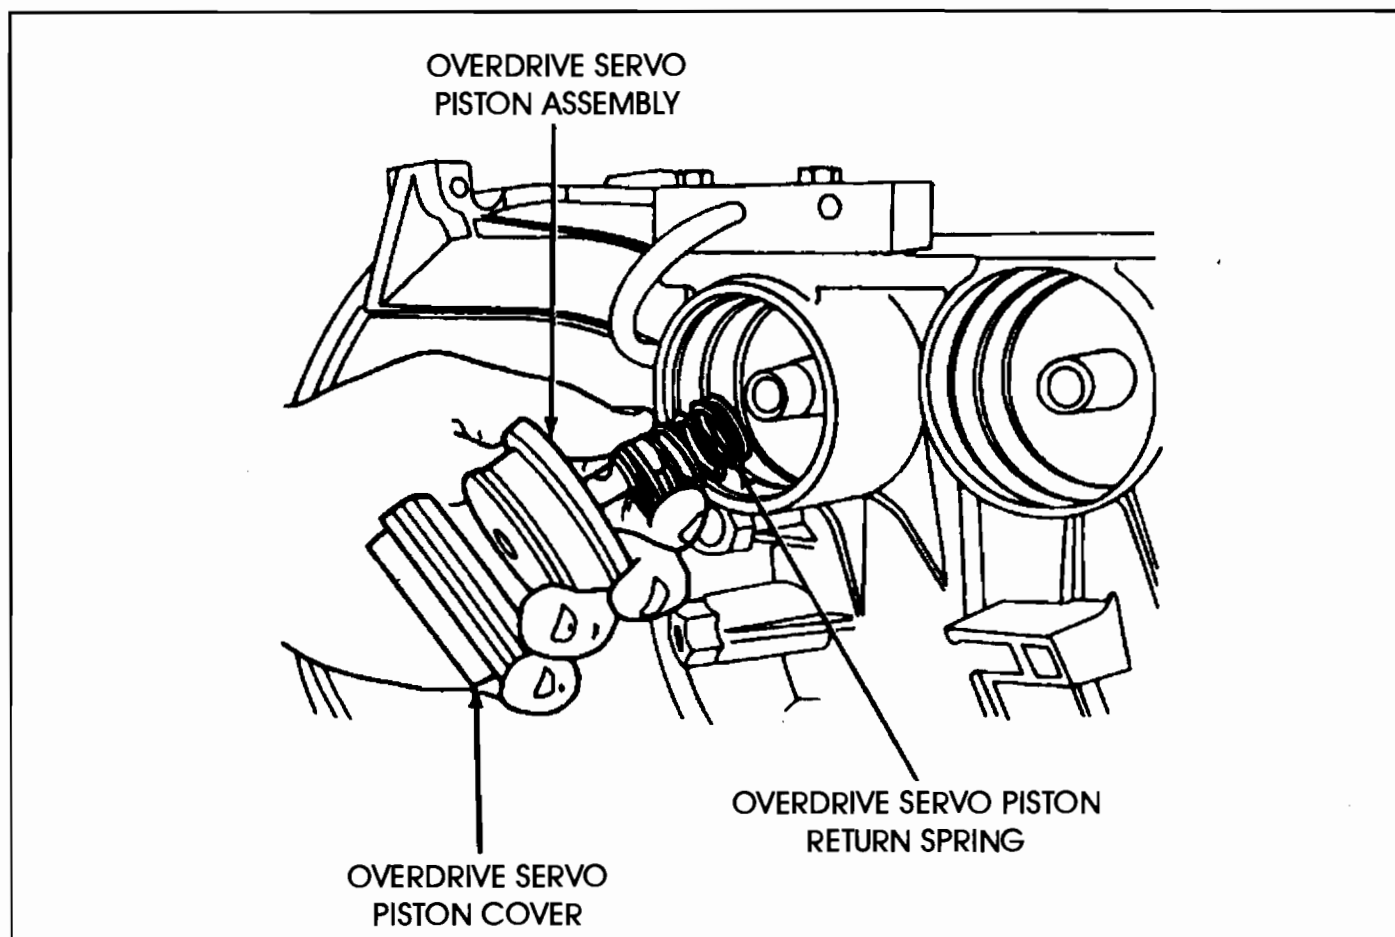

Figure 12
**CORRECTION:** Replace the intermediate and/or overdrive servo pistons as necessary (See Figure 12).